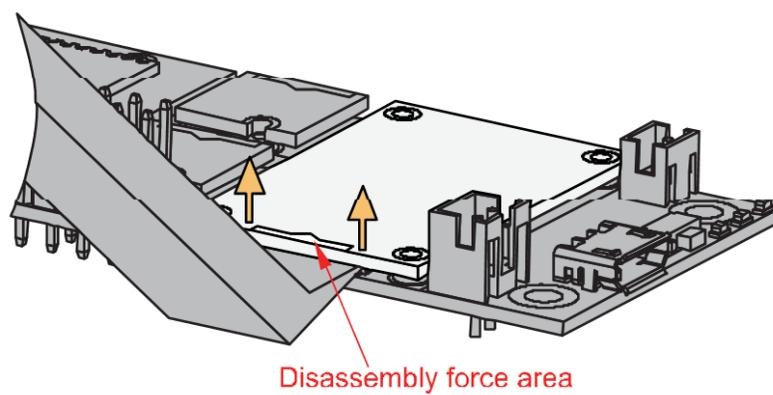

Figure 6: Applying even forces on the proper location of a WisBlock module
- Apply force to the module at the position of the connector, as shown in **Figure 6**, to detach the module from the baseboard.